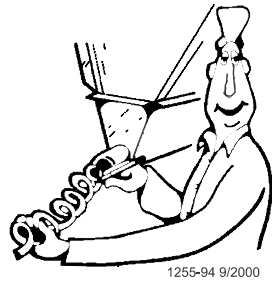

Figure 40. Measure the Auger from relaxed position
10. Pull the auger at the boot end until it begins stretching. Then let it relax. In the *relaxed* position, mark the auger at the end of the boot. See Figure 40.